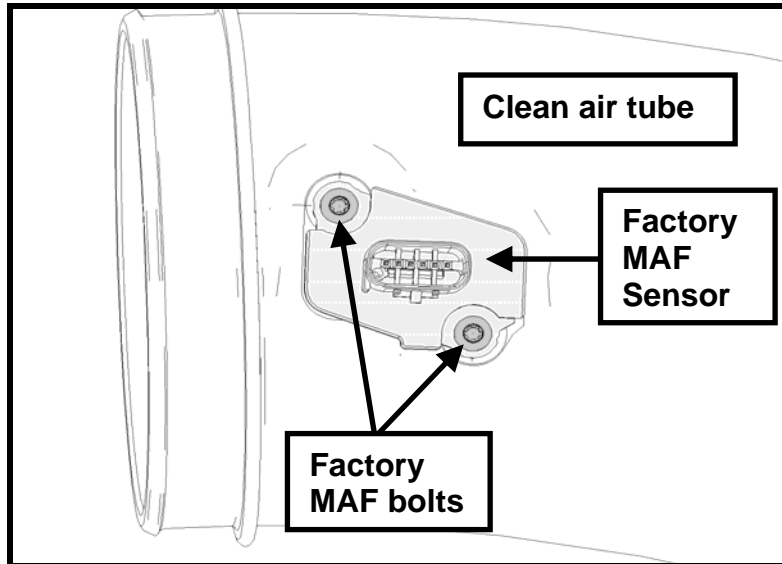

Fig. 28
STEP 12: Install the MAF sensor and bolts from the stock airbox into the new clean air tube (R07060101) (See Fig. 28). Torque the bolts to 4 Nm (35 lb in)